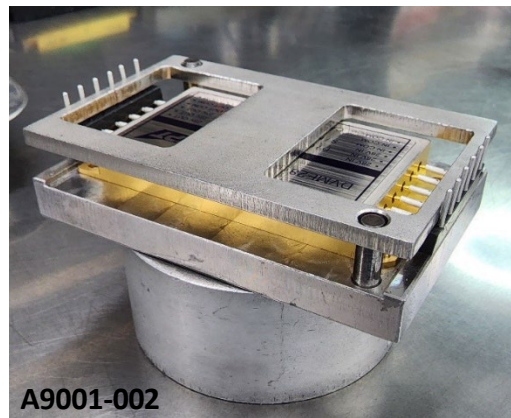

Figure 6: Up Lead Extension Fixture
- Flux can be used to improve solderability. The up lead (UL) fixture is seen in Figure 6.